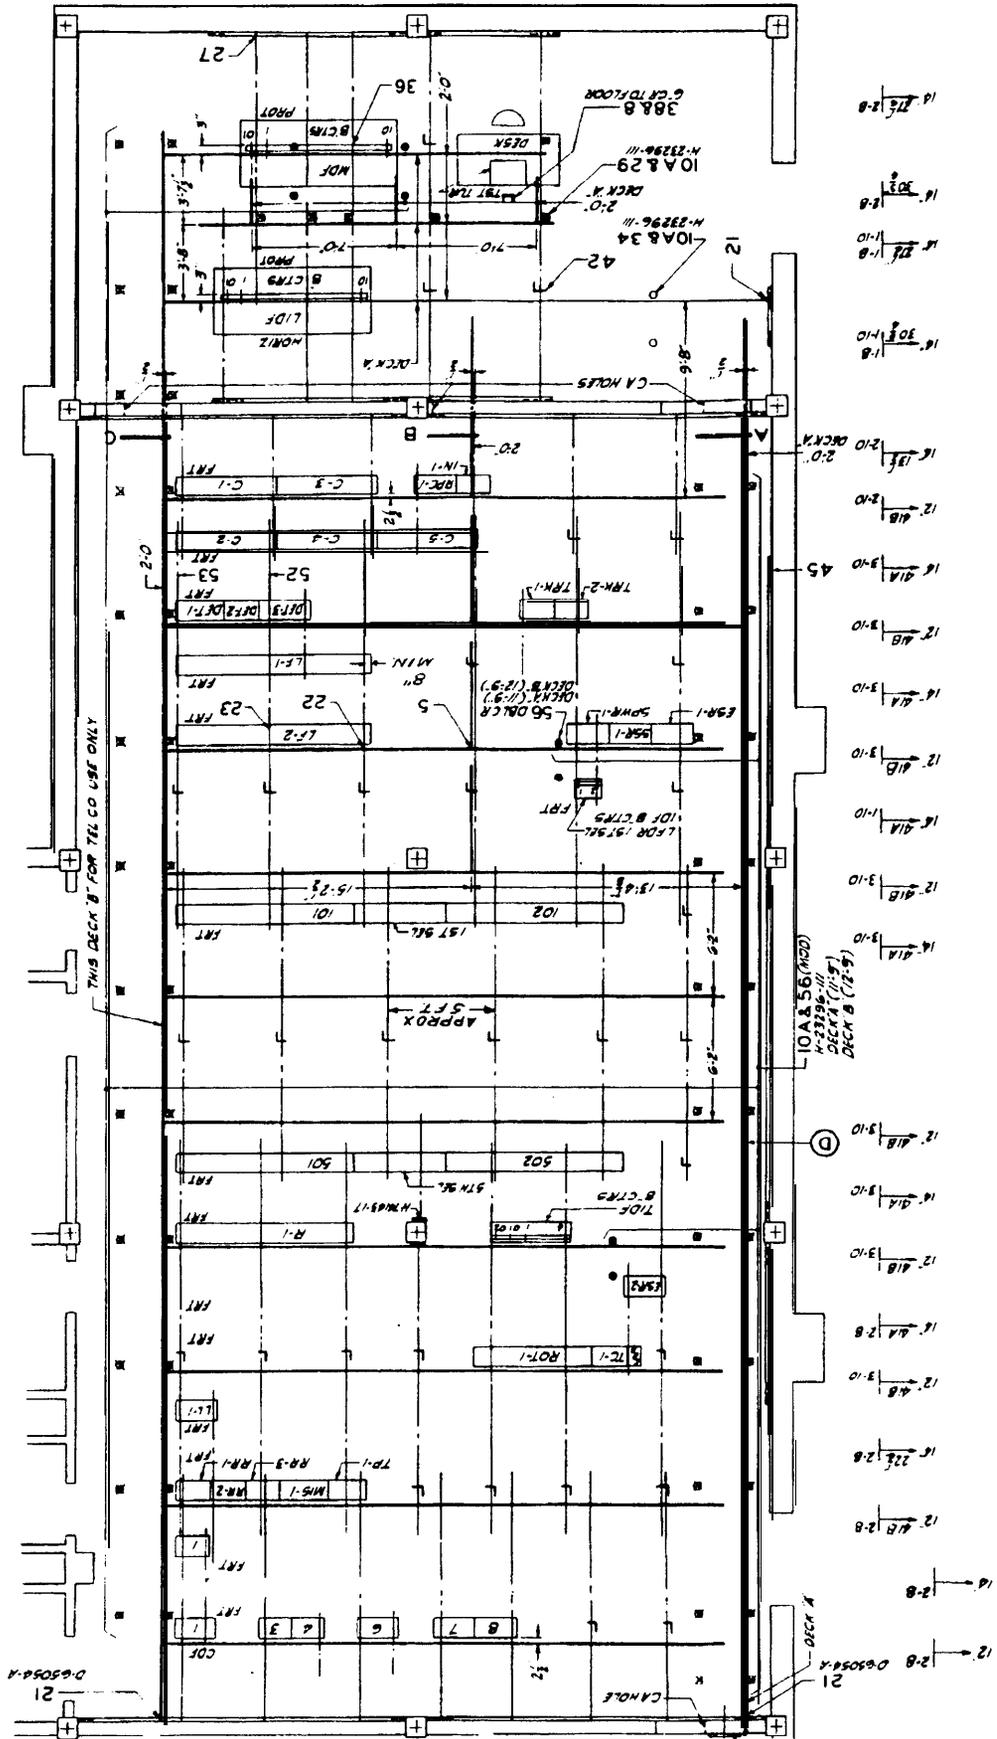
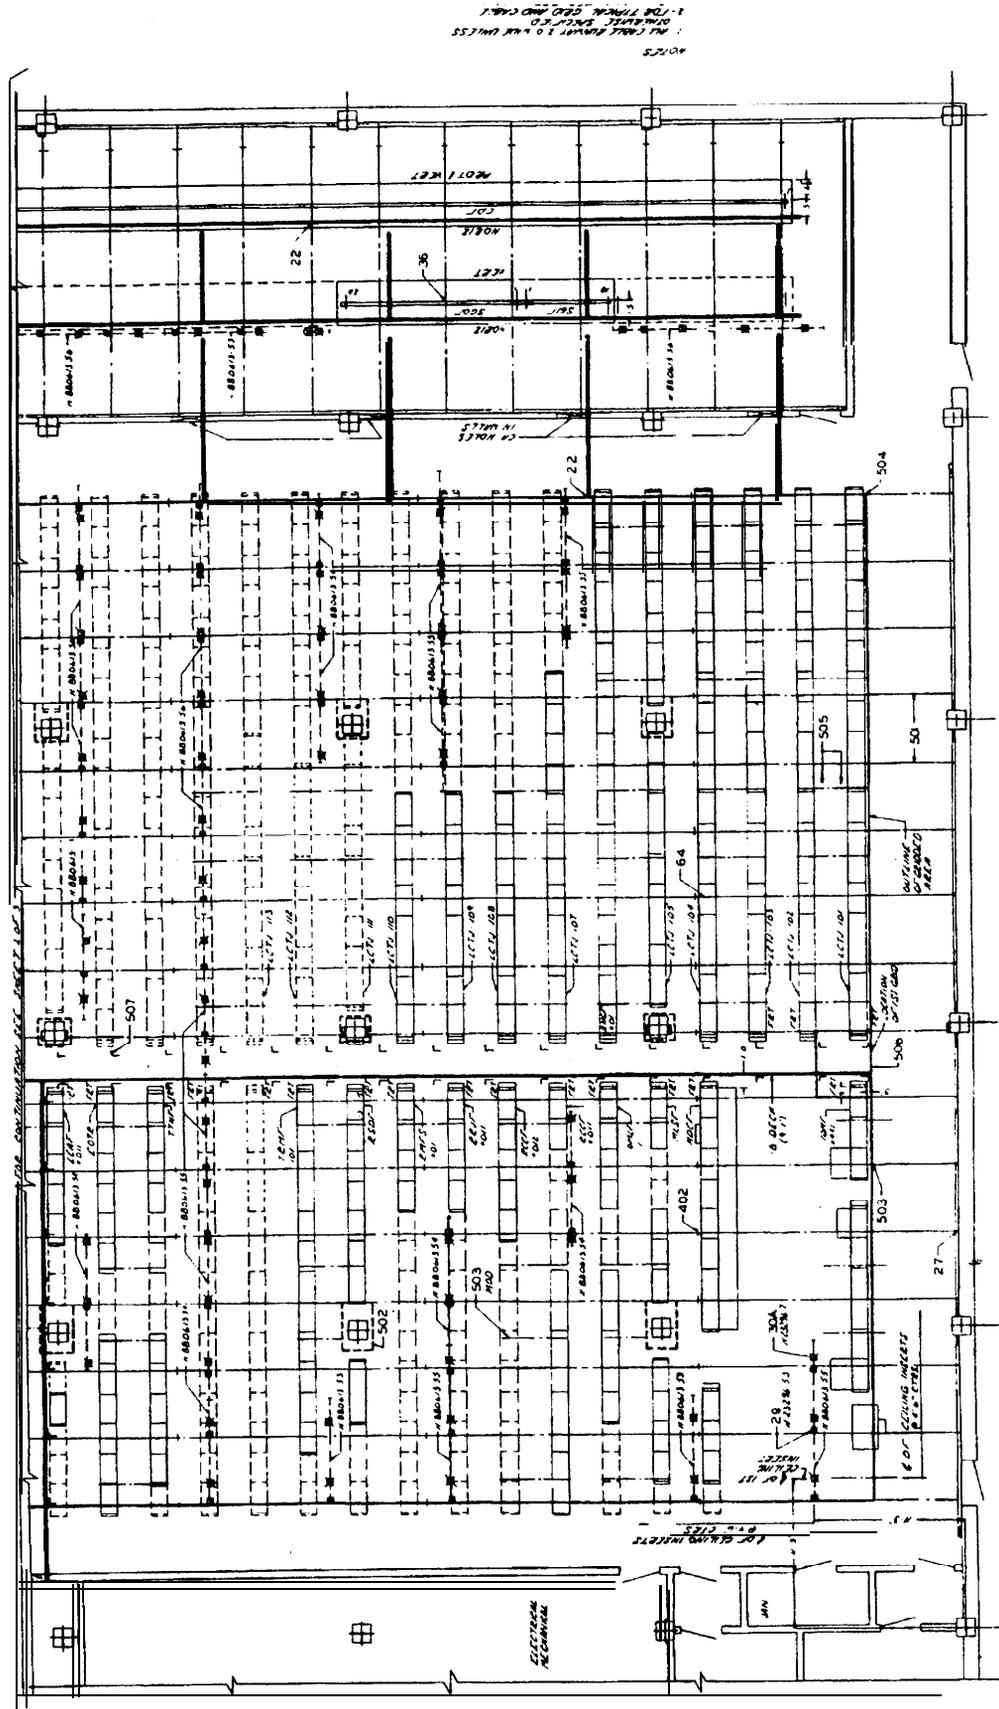

Figure 3. Typical CR Drawing S x S Office.
Figure 4. Typical CR Drawing Using Cable Grid - Electronic Office.
3.04 Figure 3 is a typical FCR drawing for a nonelectronic office. Figure 4 is a typical FCR drawing using cable grid for an electronic office. Assembly drawing H-440000-A provides the identification symbols and definitions that are used in the drawing to identify wall angles, channel braces, and channel brace supports. If an individual CR drawing is being used, compare it with the floor plan (F) job drawing (JD-XXXXX-F/FCR) for more specific length and spacing